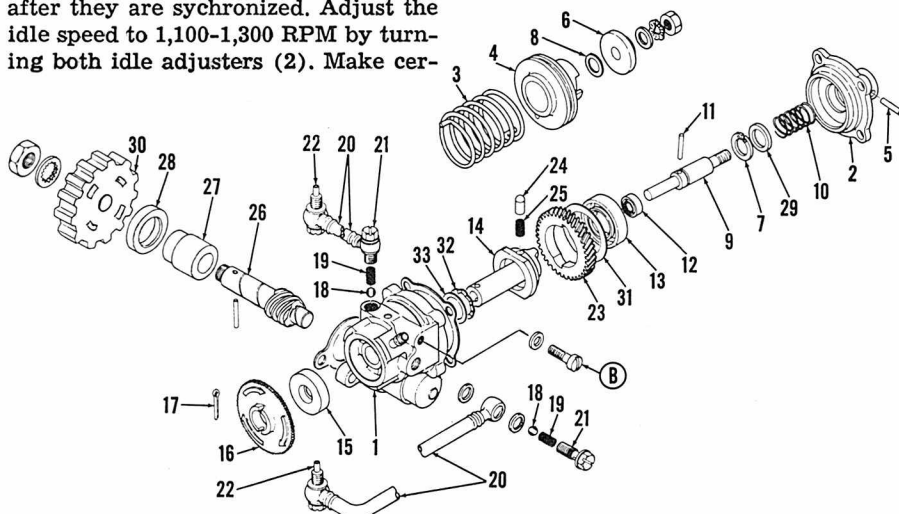

Fig. Y8-6—Exploded view of the oil injection pump unit.
then reinstall bleeder screw (B) and start engine. Run engine at idle speed until oil delivery lines (20—Fig. Y8-6) are free of air bubbles.